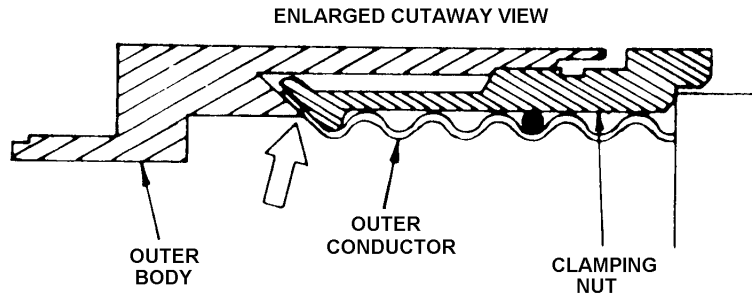

**Figure 1.24** - Detaching Foam and Removing Burrs
- 8.4 Push the clamping nut onto the cable, using a twisting motion to ensure that the spring contacts snap into the first groove (see cutaway view in Figure 1.24). Grip the clamping nut with one hand and align the edge with the line scribed in sup-para. 4.2 above. Using a hacksaw with a fine-toothed blade, carefully cut the cable flush with the end of the clamping nut (see Figure 1.23).